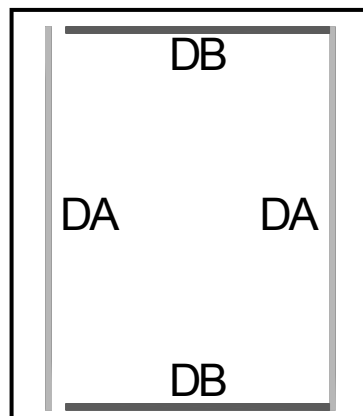

Fig B1
2. Lay out the parts **DA** and **DB** as in fig B1